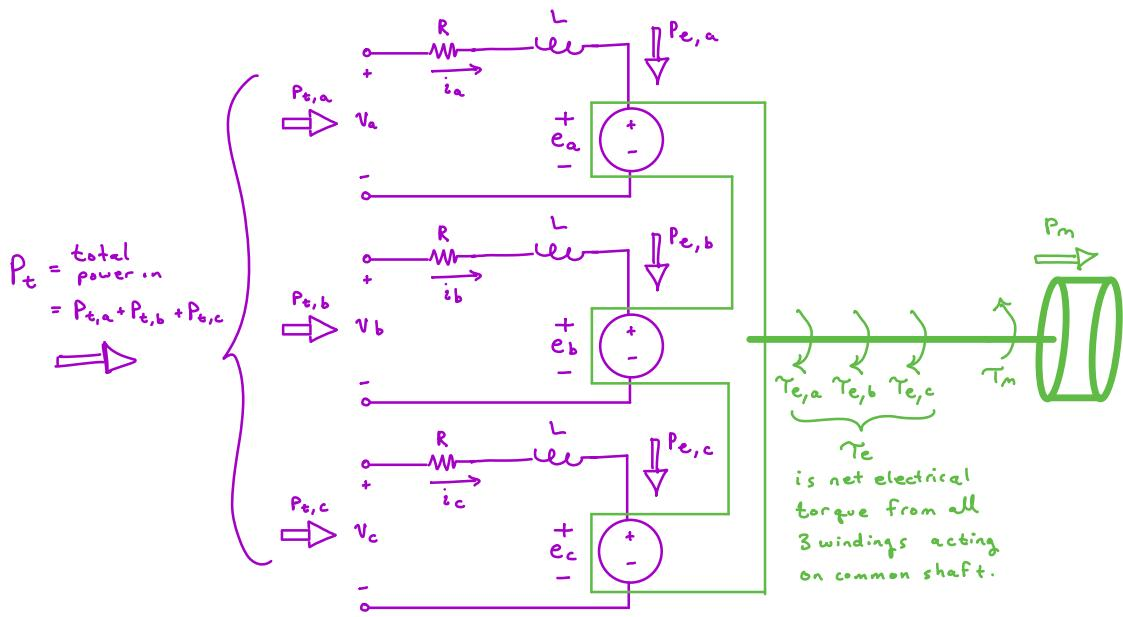

Fig 7 : 3 phase Machine
- Looking @ Fig. 7, the main idea is that 3 back EMFs can now absorb electric power. The power all 3 absorb translate into 3 torques on the common mechanical shaft.